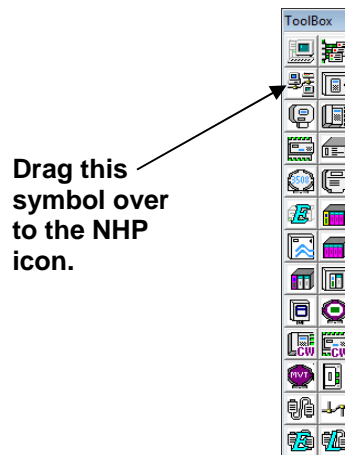

Figure 6-32. Starting the Network Wizard – Method 2
- The other way to activate the Network Wizard is to first click **View>Toolbox** from the menu bar. This activates the Toolbox. (see Figure 6-32). Now drag the IP network symbol over to the NHP icon. This activates the Network Wizard.